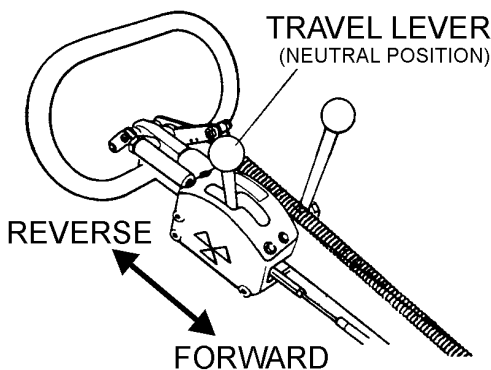

Figure 21. Travel Lever
1. To make the roller move in the forward direction push the travel lever (Figure 21) forward. This roller has a hydraulic variable speed transmission. By moving the travel lever various increments, you can vary the speed from 0 to 1.8 mph (0 to 3 km/hr).
2. To make the roller move in the reverse direction pull the travel lever (Figure 21) backwards.